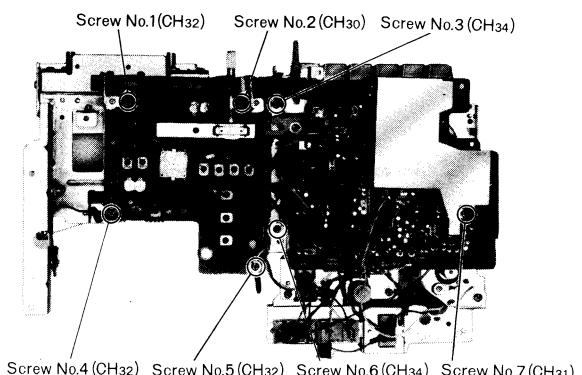

Fig. 3
2. Remove three (3) PC Board and tape deck screws, nos. 3, 6 & 7, as illustrated in fig. 3.
3. Remove four (4) PC Board screws, nos. 1, 2, 4 & 5, as illustrated in fig.3.